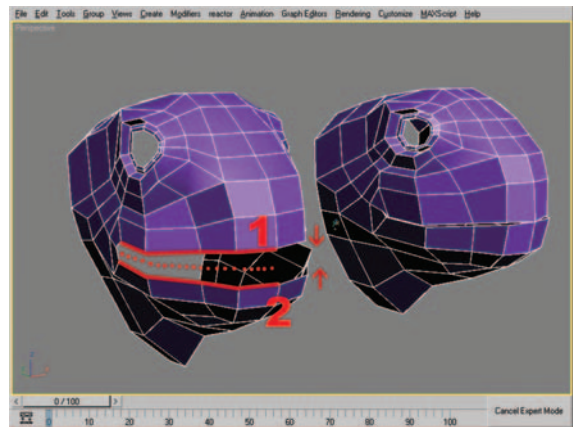

Figure 9.28 Edge selections and resulting mesh after moving the edges.
28. Select the four edges along the top of the mouth opening (Figure 9.28, 1) and drag them down, splitting the distance of the opening in half. Next select the four edges at the
bottom of the opening (Figure 9.28, 2) and move them upward to leave only a small space between the top and the bottom lip (Figure 9.28, right). Remember you can toggle Symmetry on and off to suit your needs.